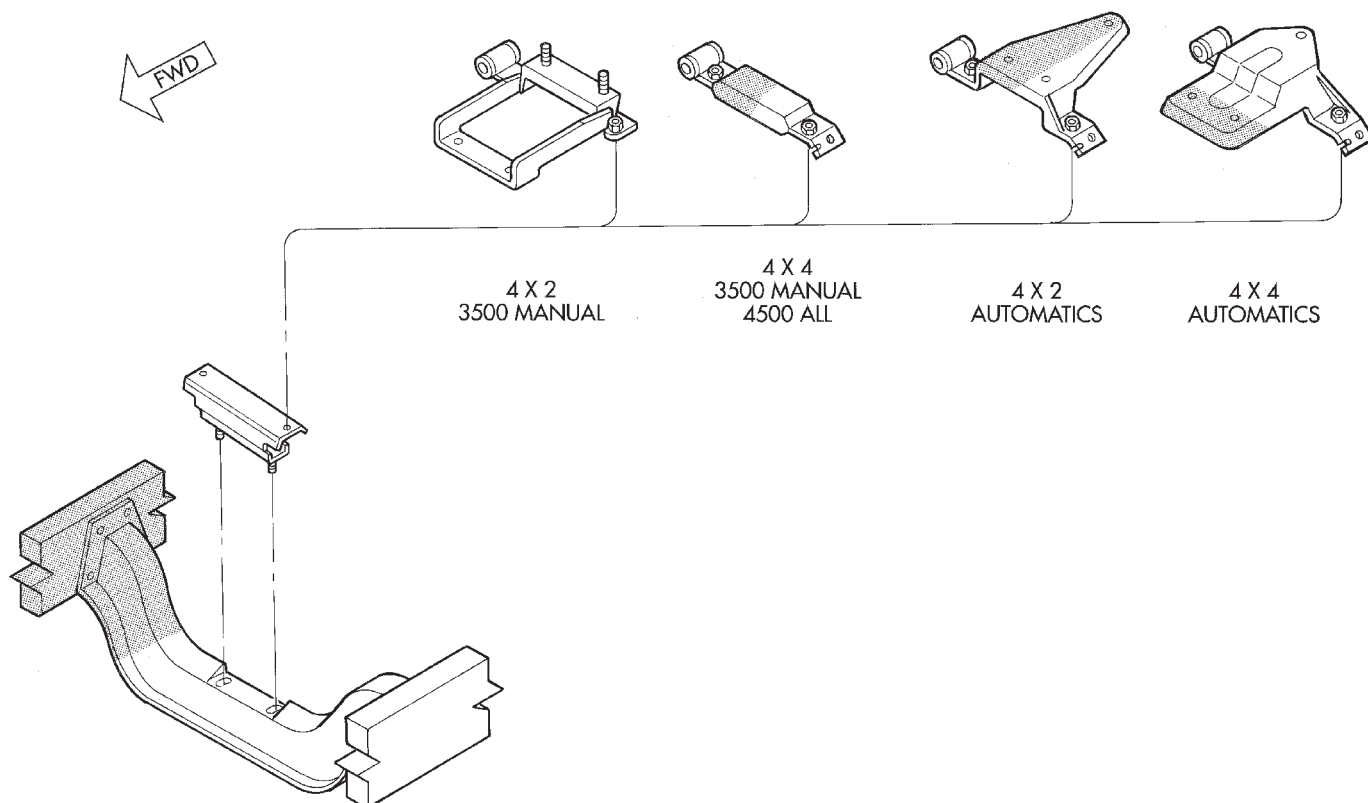

Fig. 15 Engine Rear Support Cushion Assemblies
(2) Position a transmission jack in place.
(3) Remove support cushion stud nuts (Fig. 15).
(4) Raise rear of transmission and engine SLIGHTLY.
(5) Remove the bolts holding the support cushion to the transmission support bracket. Remove the support cushion.
(6) If necessary, remove the bolts holding the transmission support bracket to the transmission.
(2) Position support cushion to transmission support bracket. Install stud nuts and tighten to 41 N·m (30 ft. lbs.) torque.
(3) Using the transmission jack, lower the transmission and support cushion onto the crossmember (Fig. 15).
(4) Install the support cushion bolts and tighten to 41 N·m (30 ft. lbs.) torque.
(5) Remove the transmission jack.
(6) Lower the vehicle.